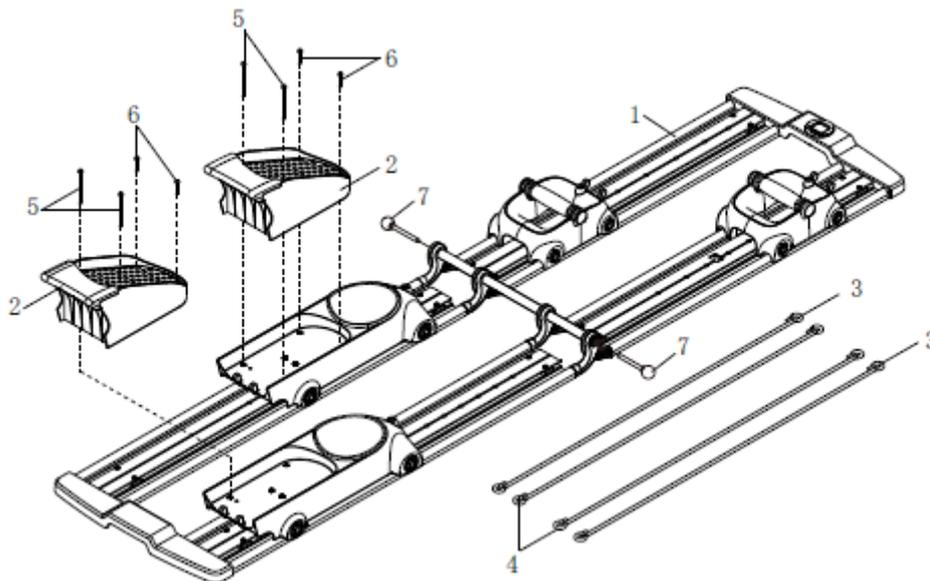

Fig. 3
- Unpack all parts and put them on the floor next to each other (see Fig.3& Fig.4 above)